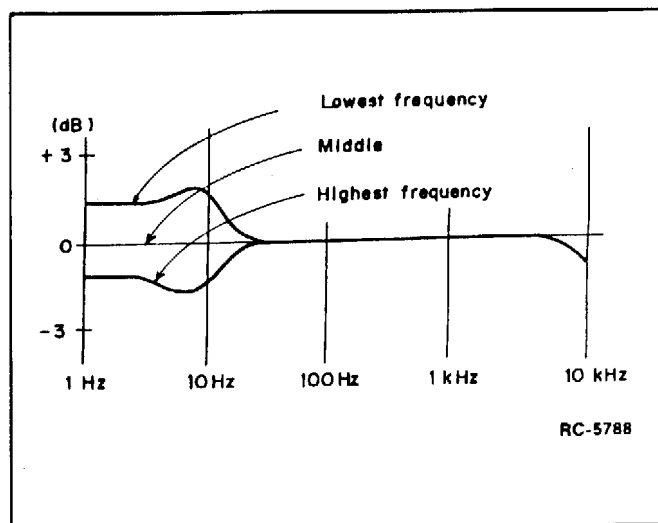

Figure 5 - Typical Modulation Frequency Characteristics
4. Change the carrier frequency to the highest channel of the band and then to the lowest channel. Check the modulation flatness each time (refer to Figure 5).